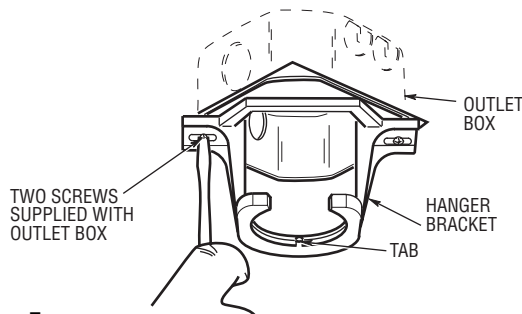
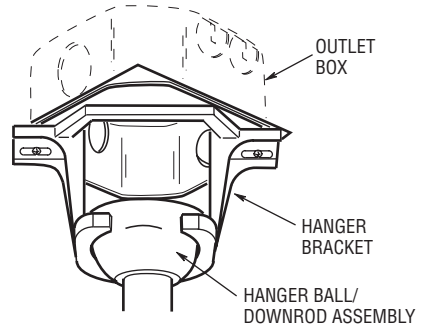

Figure 7
Figure 8
1. Securely attach the hanger bracket to the outlet box using the two screws supplied with the outlet box (Figure 7).
2. Carefully lift the fan from the foam pad and seat the hanger ball/downrod assembly on the hanger bracket that was just attached to the outlet box (Figure 8). Be sure the groove in the ball is lined up with tab on the hanger bracket (Figure 7).